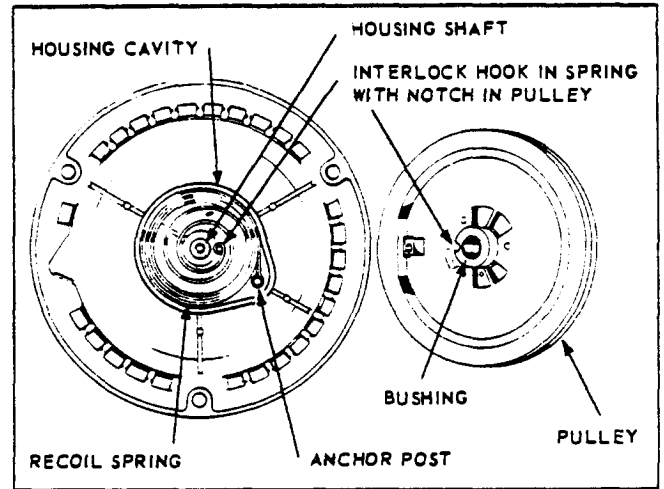

FIG. 6
Prevent recoil spring from escaping from housing by carefully lifting pulley about 1/2 inch and then detaching inside spring hook from pulley, with a screw driver. Note: If spring should escape, it can easily be replaced into cover by coiling in the turns. See Fig. 6, for proper direction of spring coiling. If it is necessary to remove spring, start with the inside loop and carefully pull out one loop at a time while holding back rest of turns. When replacing spring, note the position of spring hooks in Fig. 6. Engine rotation is clockwise, viewed from starter end.
E. RECOIL SPRING REPLACEMENT, Fig. 6
Spring holders furnished with replacement springs simplify the assembly procedure. Place *recoil spring* in proper position as shown in Fig. 6, with the outside loop hooked around the *anchor post*. Then press spring into *housing cavity* thus releasing the spring holder. A few drops of SAE 20 or 30 oil should be applied to spring and light grease on housing shaft.
F. ASSEMBLY of PULLEY, Fig. 6